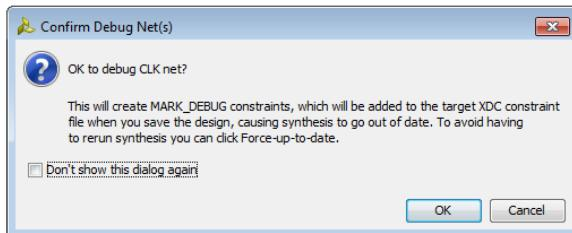

Figure 11.19: Confirm Debug Net(s) dialog box
- In the **Confirm Debug Net(s)** dialog box (in case of marking new debug net), click **OK**, see Figure 11.19.